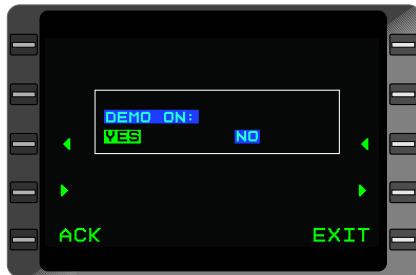

Figure 7-150
3. From the **MAIN MENU**, press LSK 1R (unmarked) to access the **DEMO** initialization page. See Figure 7-150.